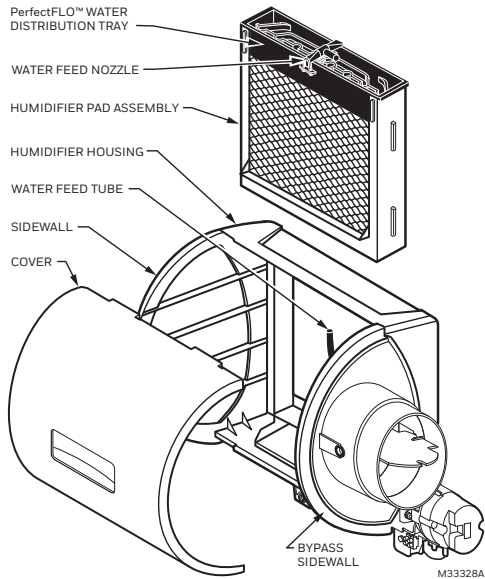

Fig. 20. Cleaning your humidifier.
- Remove the humidifier cover. See Fig. 20 on page 14.